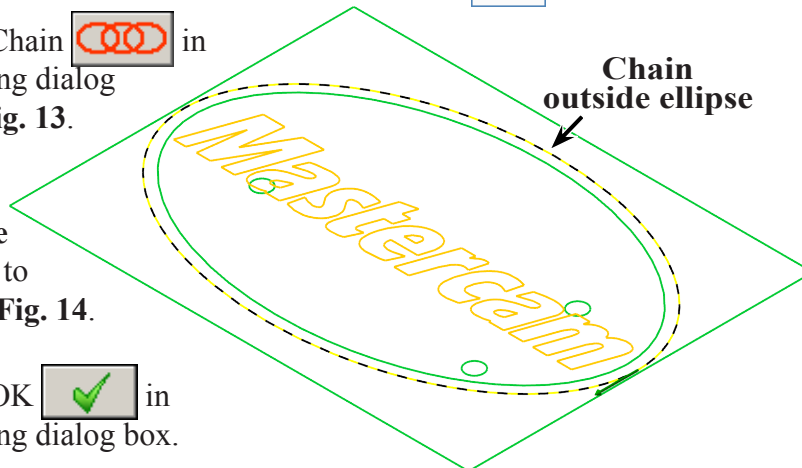

Fig. 14
Step 5. Click **outside ellipse** to chain, Fig. 14.